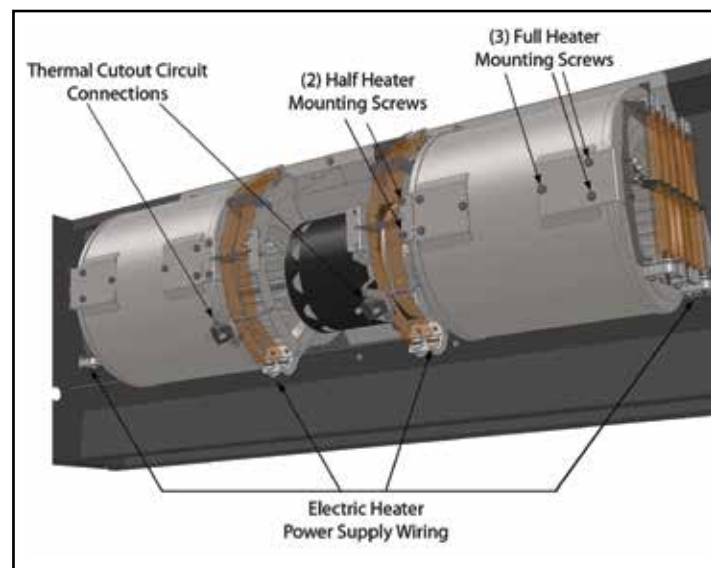

FIGURE 14 - Location of screws
3. Disconnect the wire harness from the motor(s). If the unit has electric heat, label and remove power wires and thermal cutout circuit wires from the heater assemblies. See Figure 14.
2. See Figure 14. There are (4) heater assemblies per Blower Module. All have (2) power connections. The "Half" heater assemblies also have (2) connections for the thermal cutout circuit. Label and remove all wires on the heaters to be replaced.
3. The (2) "Full" heaters are each held in place by (3) self-drilling screws that go through the heater mounting bracket into the fan housing. The (2) "Half" heaters are each held in place by (2) self-tapping screws that go through the heater frame into the mounting bracket that is attached to the fan housing. Remove all fasteners on the heaters to be replaced.